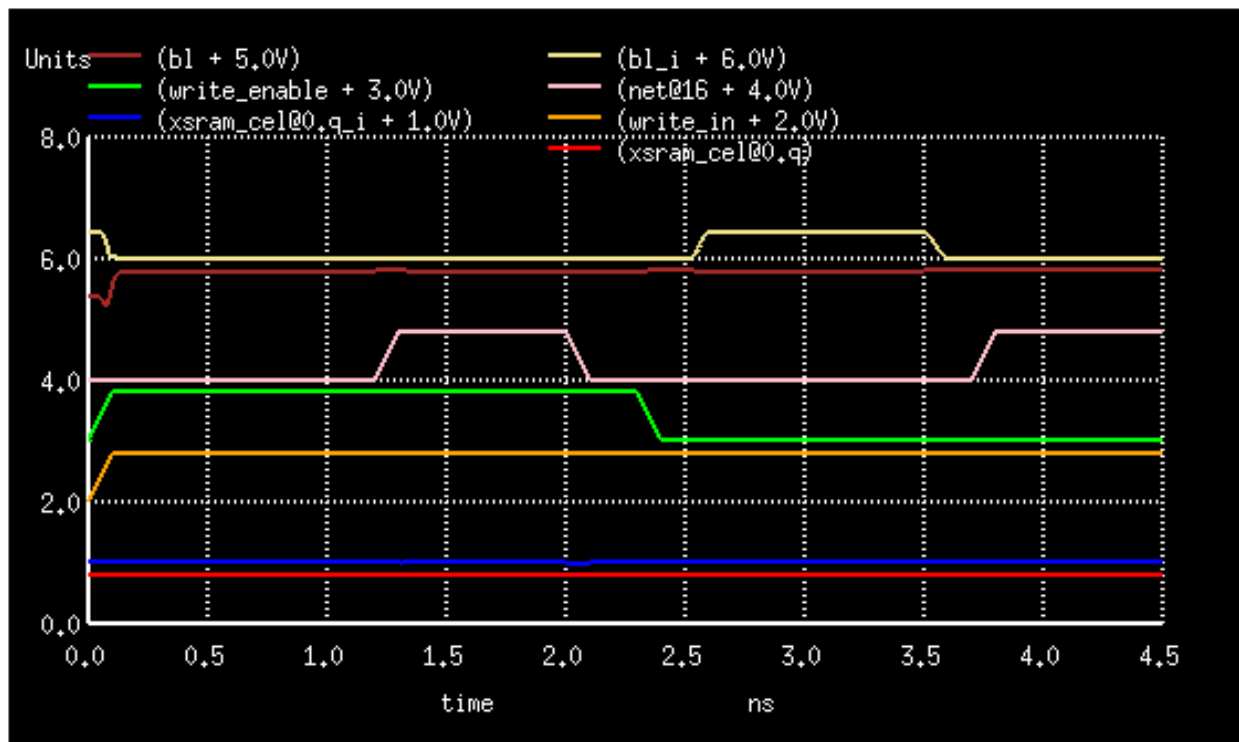

Figure 7: Writing 1 and then reading 1
2. Reading a 1 from a cell that was written to 1 (Figure 7).